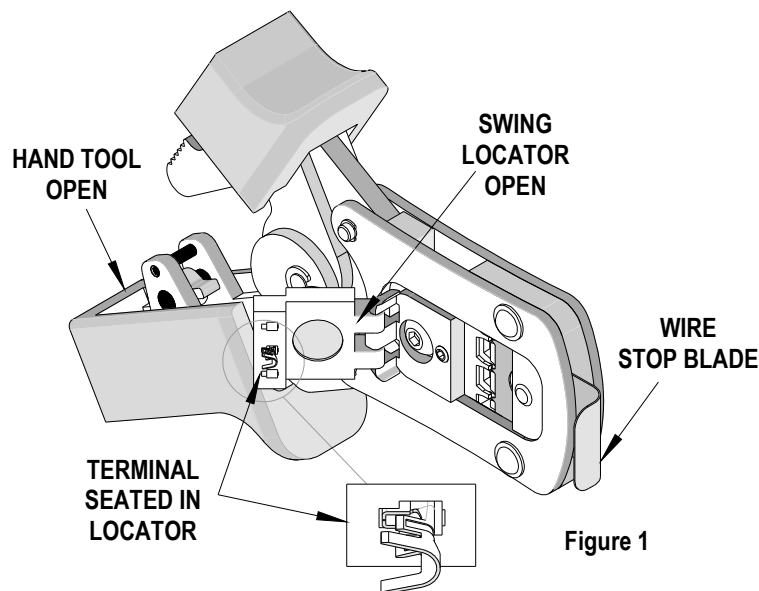

Figure 1
1. With the hand tool in the open position, pivot the terminal locator open by pulling on the locator knob and lift the wire stop blade up. See Figure 1.